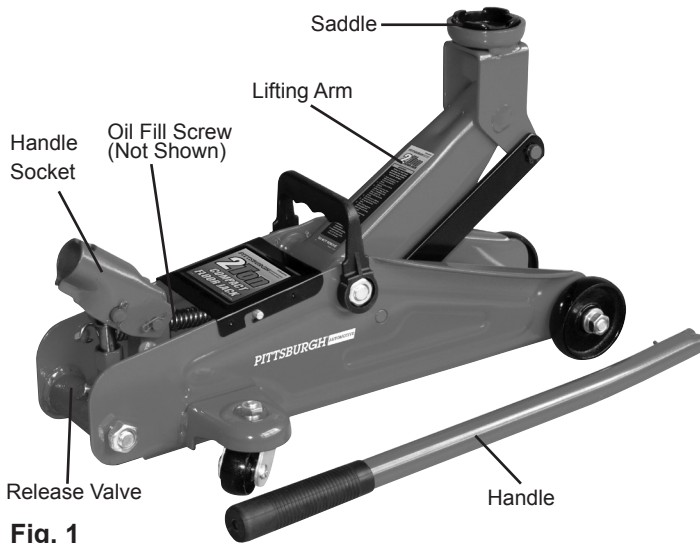

Fig. 1
3. Turn the Handle (Fig. 1) counterclockwise to open valve.
4. Insert the Handle into the Handle Socket. Pump the Handle (Fig. 1) up and down quickly for several times to purge the air from the system.
3. Carefully position Saddle of Jack (Fig. 1) under the vehicle manufacturer's recommended lifting point. If equipped, the Elevating Screw can be used to alter the height of the jack's saddle; it is adjusted by turning the saddle clockwise or counterclockwise. (See vehicle manufacturer's owner's manual for location of frame lifting point when lifting only one wheel, and frame lifting points when lifting entire front or rear end of vehicle.)